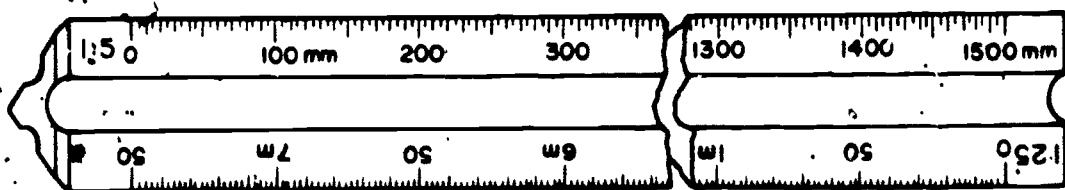

FIGURE 2
1. Measurements are made by reading directly from the 1:5 scale ratio in millimeters (Figure 2)